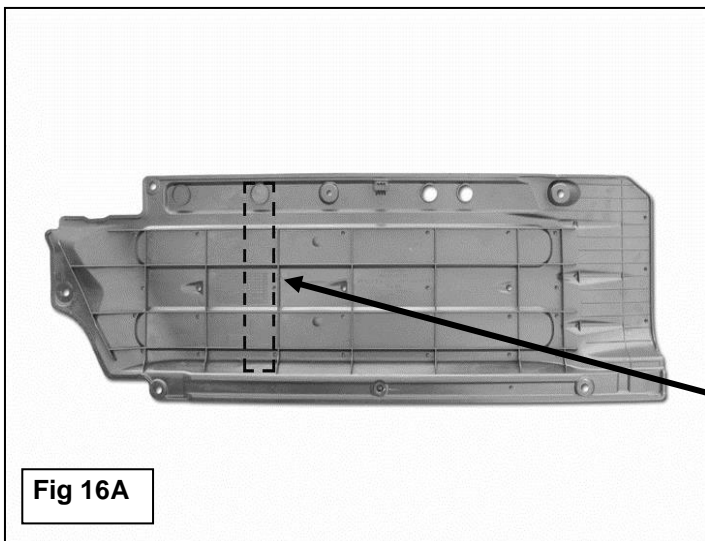
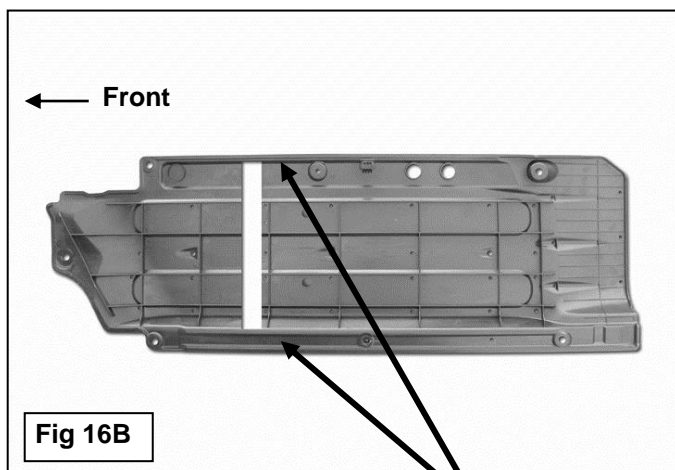

Fig 16A
Fig 16B
(2) 6mm Hex Nuts**
14. Temporarily attach the front Bracket to the front Support Bracket and Bolt Plate. Hold the large plastic cover removed in Step 2 up against the bottom of the front bracket. Mark the location of the Bracket onto the inside of the cover, (Figure 16A). Cut a slot in the cover with a sharp knife or hacksaw blade, (**Figure 16B**). IMPORTANT: Only remove material necessary to clear the front Bracket. Do not cut through the inner or outer edge of the cover. Once properly cut, remove the front Bracket. Reinstall the plastic cover with the factory hardware. Reinstall the front Bracket.